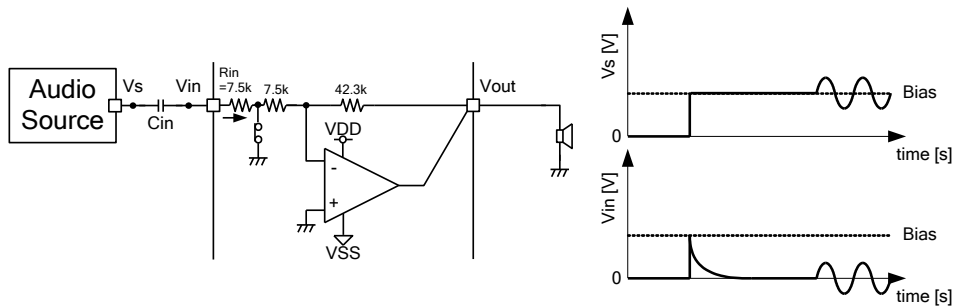

Figure 31. Fluctuation of input terminal voltage when charging input coupling capacitor
① The term from “PVDD, SVDD : ON” to “shutdown ON->OFF”
When power supply (PVDD, SVDD) is applied, it is started that charging input coupling capacitors. Therefore, the input terminal voltage "Vin" is changed as following Figure 31. Time constant "τ" of charging input coupling capacitor is decided by input coupling capacitor Cin and Internal input impedance Rin (See formula (1)). Internal impedance Rin in term of shutdown is 7.5kΩ (typ) for making time constant τ shorten. If "SDB" is changed "L" to "H" (shutdown ON -> OFF) during input DC voltage (Vin) is changing, pop noise may occur. It is recommended that shutdown ON -> OFF ("SDB" : L -> H) after 5τ ~ 6τ.